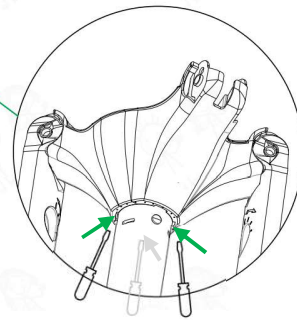

Figure 1.2
- B. To release locking tabs, carefully insert and wedge a flat tip tool into each of the 3 slots under the top hub as shown in Figure 1.2. While tools are still wedged in, pull the top hub up to disconnect it from the upper column.